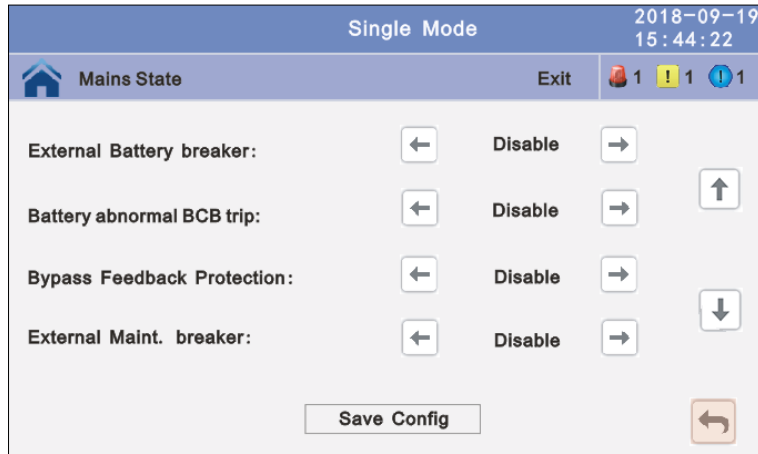

Fig. 4-36 Settings/Advanced Settings/Dry contacts submenu
- Dry contact setting submenu (Fig. 4-36)